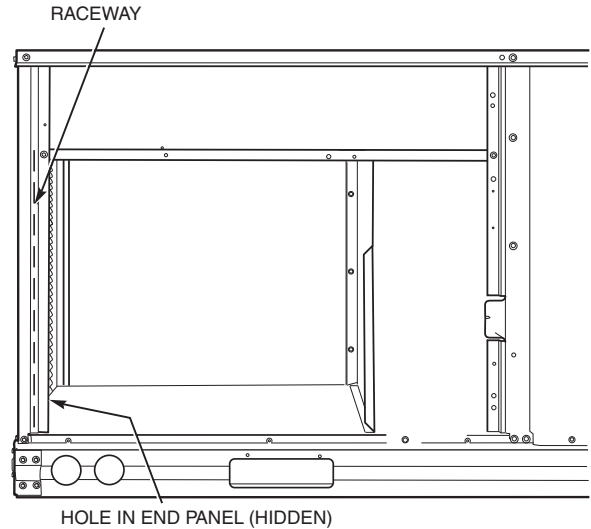

Fig. 54 — Field Control Wiring Raceway (08-14 Only)
Unit Without Thru-Base Connection Kit — Pass the thermostat control wires through the hole provided in the corner post; then feed the wires through the raceway built into the corner post to the control box. Pull the wires over to the terminal strip on the upper-left corner of the Controls Connection Board. See Fig. 54.
2. Feed wires through the raceway built into the corner post (see Fig. 54) to the 24-v barrier located on the left side of the control box. The raceway provides the UL-required clearance between high-voltage and low-voltage wiring.